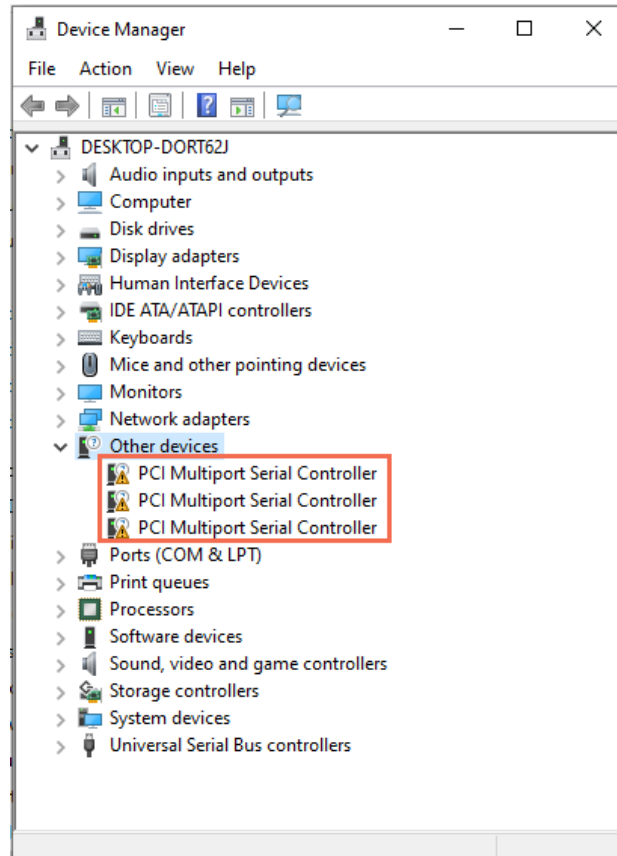

Figure 5.36. Device Manager
- Open **Device Manager**, which shows the connected PCIe devices, as shown in Figure 5.36.